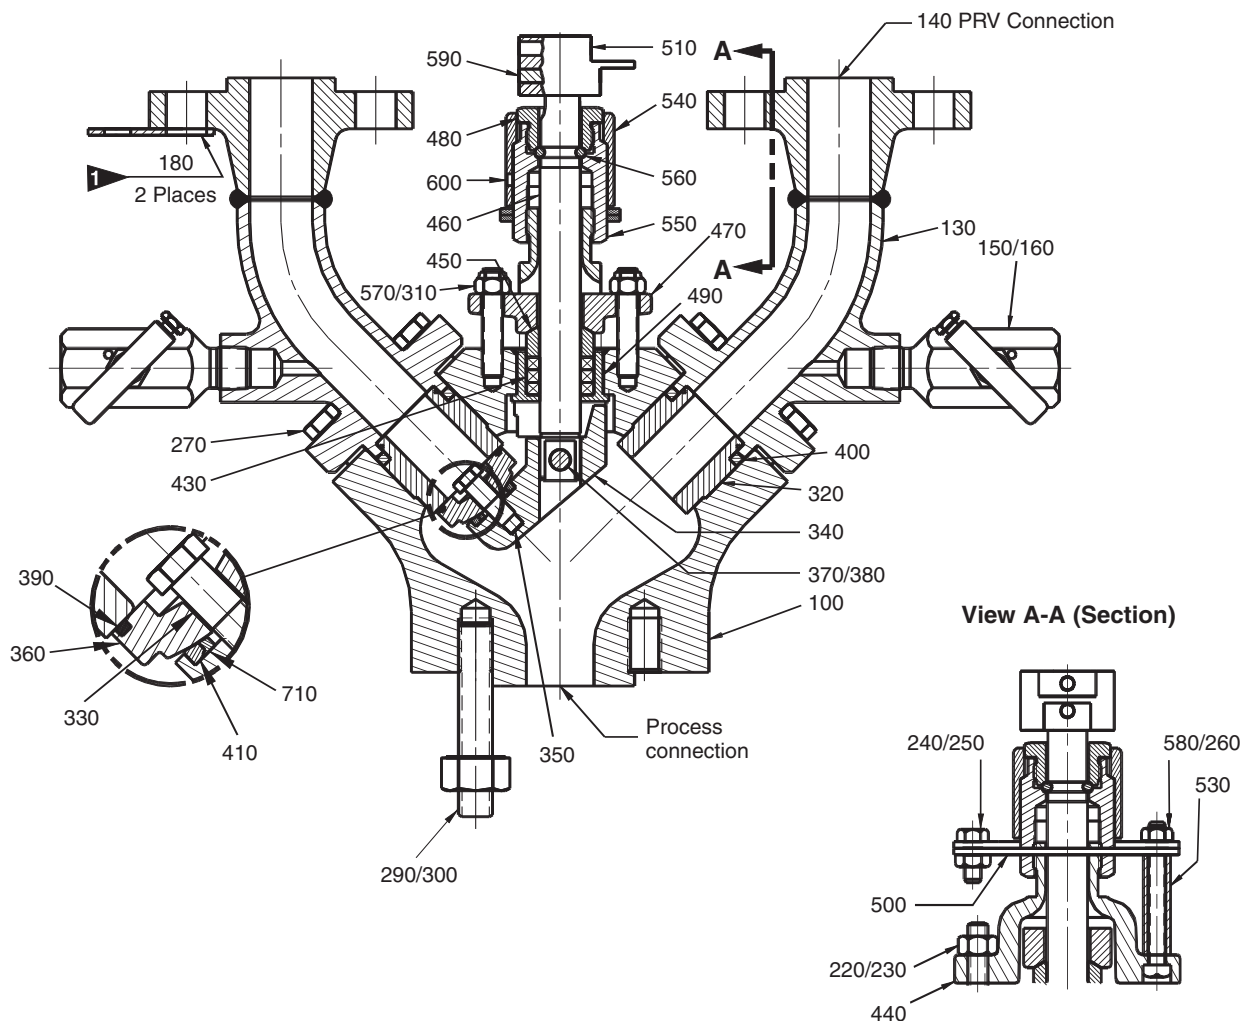

Figure 1 - Safety Selector Valve 1"- 150# thru 600# (Teflon®)
The Anderson Greenwood Safety Selector Valve (SSV) is a device for diverting process flow from one pressure relief valve (PRV) to another. Different configurations are shown in Figures 1 thru 4.
2.0 Maintenance of Single Active SSV: 1" 150#-600# Refer to Figures 1 and 2